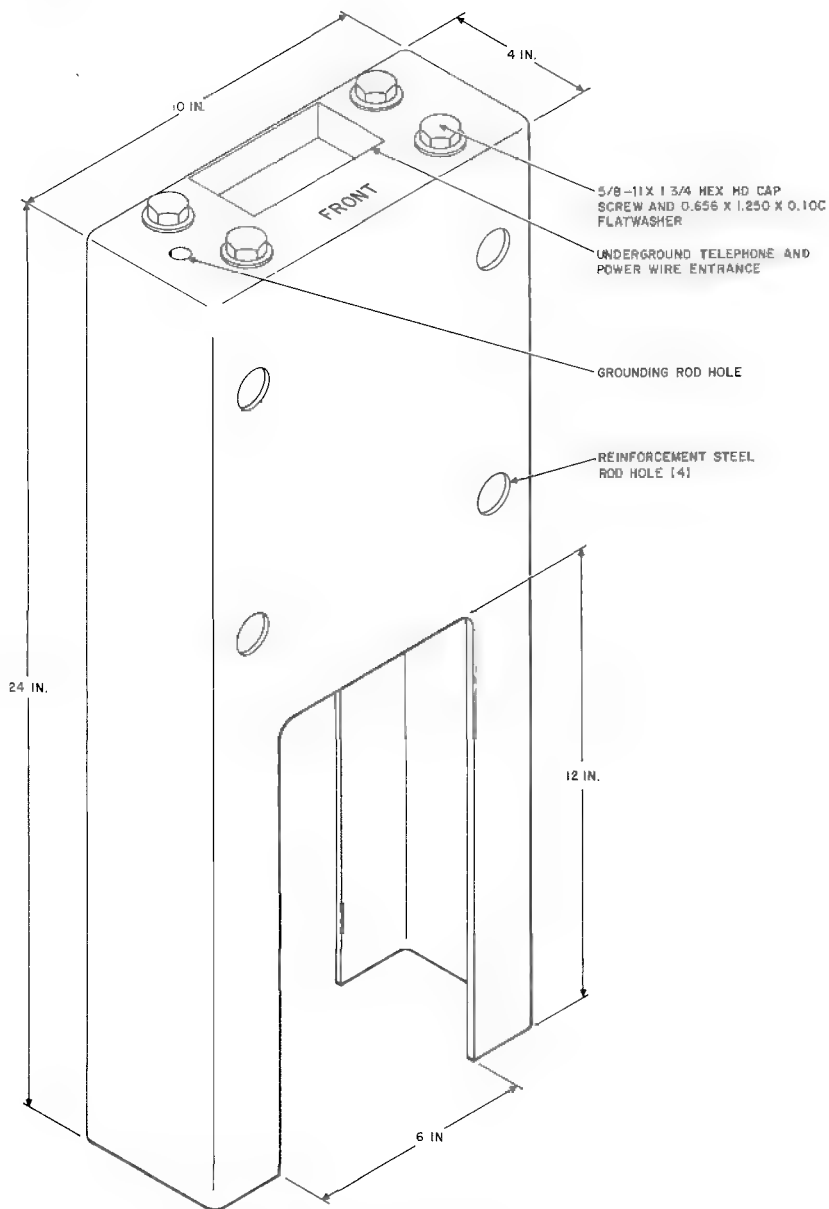

Fig. 3—K5-20842, List 52 Buried Base
2.12 *List 52 buried base* (Fig. 3) is 10 inches wide, 4 inches deep, and 24 inches long. The base is normally embedded full length in concrete with the top flush with the surface. The base top provides four threaded holes for use when mounting the post. Holes are provided through the base for four reinforcement rods which add strength and stability when installed.